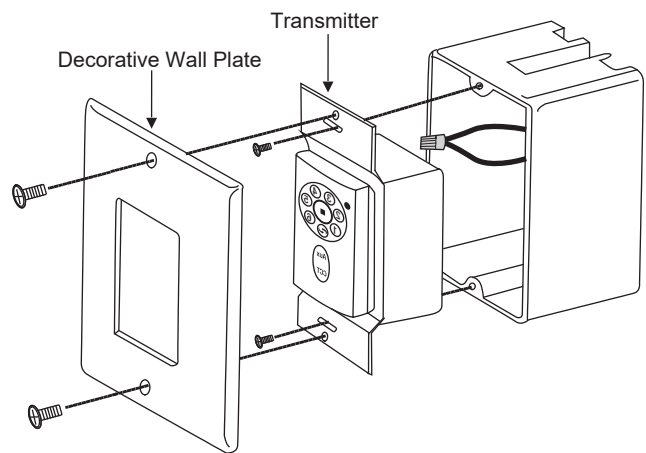

Figure 15
b. Carefully tuck the wire connections inside the outlet box. Use the screws provided to secure the wall transmitter and wall plate to the outlet box. (Fig. 15)